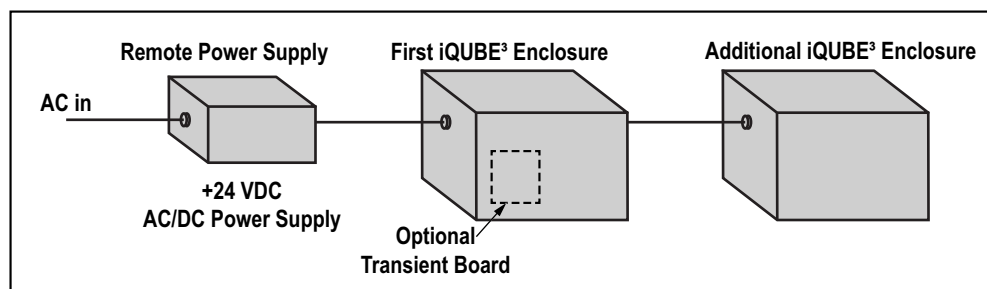

Figure 1-4. iQUBE³ with External AC/DC Power Supply
- External 115/230 VAC power supply in a fiberglass reinforced plastic (FRP) enclosure (Figure 1-4)